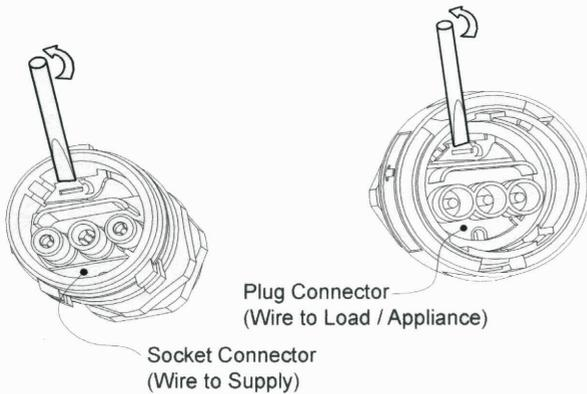

Fig.2 Inner Connectors
- 1 It is recommended that the Power Supply cable should be wired into the Inner White Socket Connector (see Fig.2 below), and the cable that goes on to the Load/Appliance should be wired into the Inner White Plug Connector (see Fig.2 below).
- 2 Remove the Inner White Socket Connector by inserting an electricians (or small flat bladed) screwdriver into the slot and turning anti-clockwise. This will unlock the connector from the outer housing, and will allow the inner connector to be rotated through 45 degrees, leaving it free to be pulled straight out of the body (see Fig.2 below).